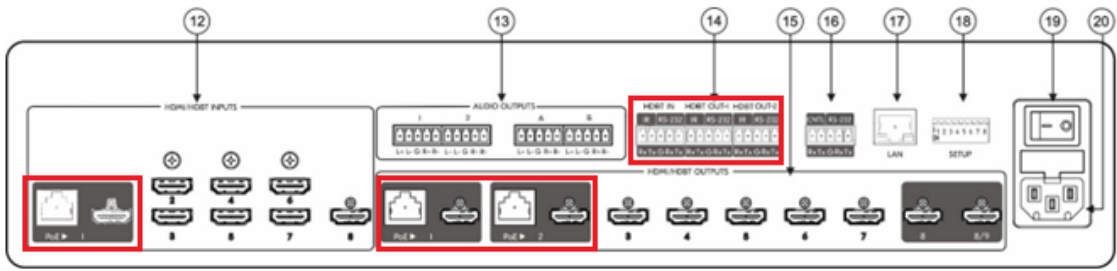

Figure 6: Rear Panel Highlighting HDBT Channel and Port
See (Figure 6): Each of the RS-232 and IR data signals may be configured for extension between HDBT (RJ-45) ports (⑫ and ⑮), or between an